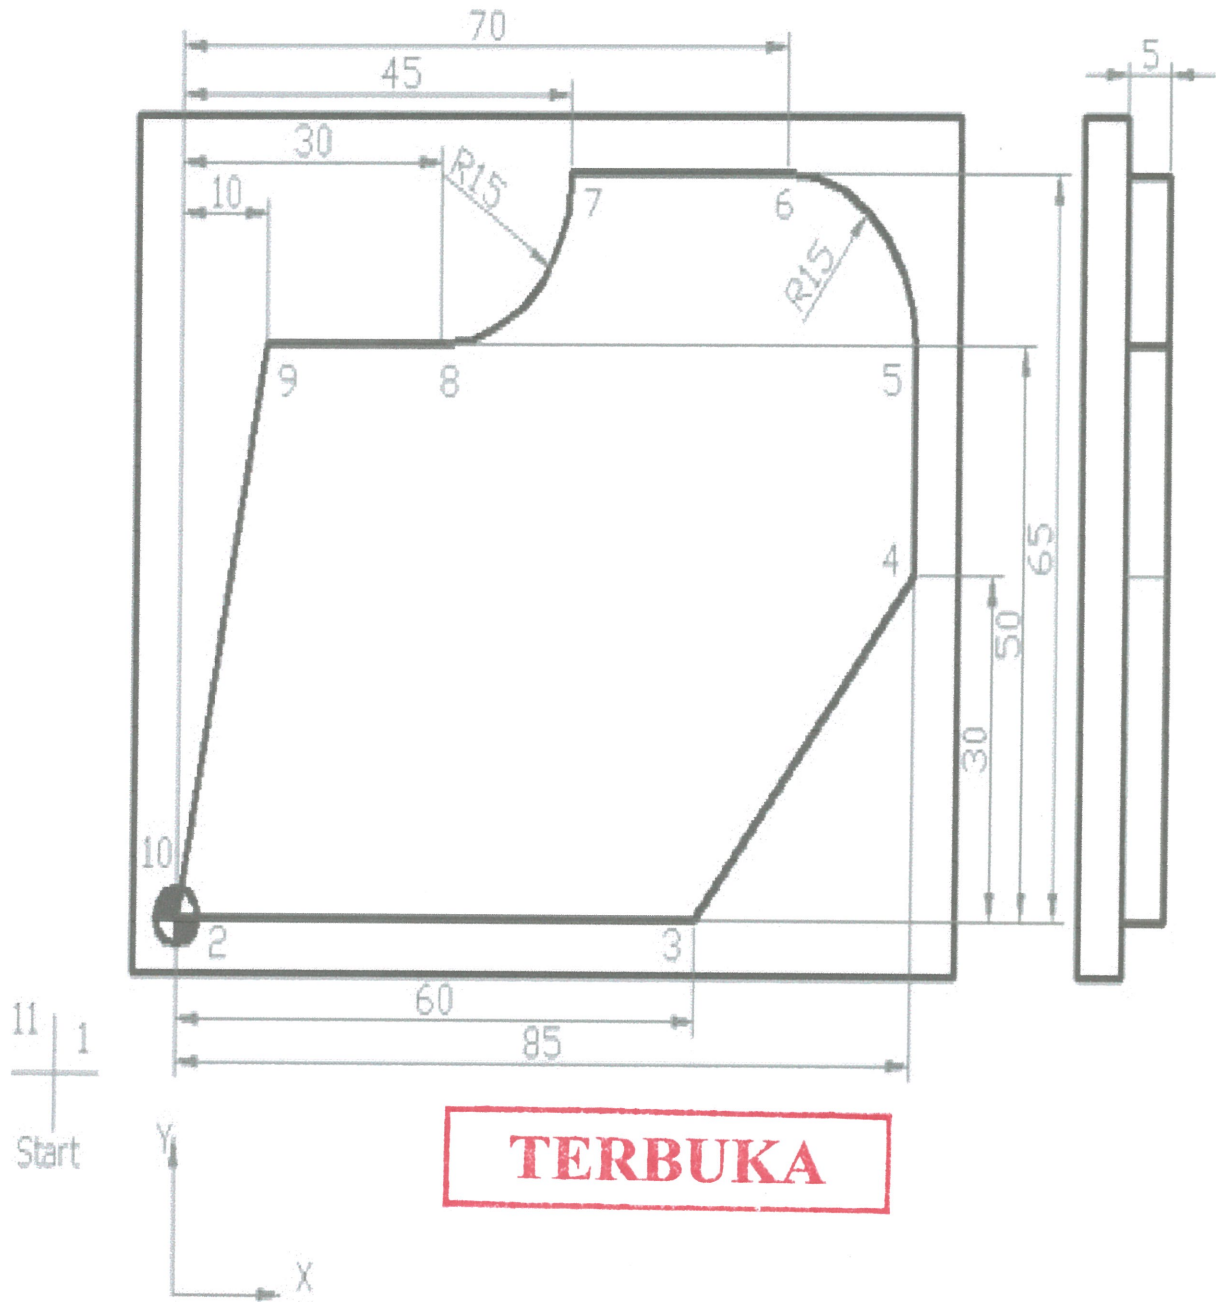

Figure Q2(a)
- Q2** (a) Referring to the drawing in **Figure Q2(a)**, appraise the suitable cutting method, tools parameters to machine the stainless steel block by using CNC milling machine. The cutting speed apply is 17.6 m/min and the feedrate is 100 mm/min. The end mill tool diameter is 12.5 mm. All dimensions unit are in millimeter (mm). (10 marks)
- (b) By applying the information in question Q2(a), construct a CNC milling program to produce the parts as in the drawing in **Figure Q2(a)**. (10 marks)
- Q3** (a) Identify **FOUR (4)** factors in selecting cutting tools for milling operation. (4 marks)
- (b) Illustrate **TWO (2)** types of direction of cut in milling: (6 marks)
- (c) Distinguish the differences of **TWO (2)** coordinate system apply in CNC milling and lathe machine. (10 marks)
- (b) Differentiate the **FOUR (4)** basic terms used in the CNC programming. (8 marks)